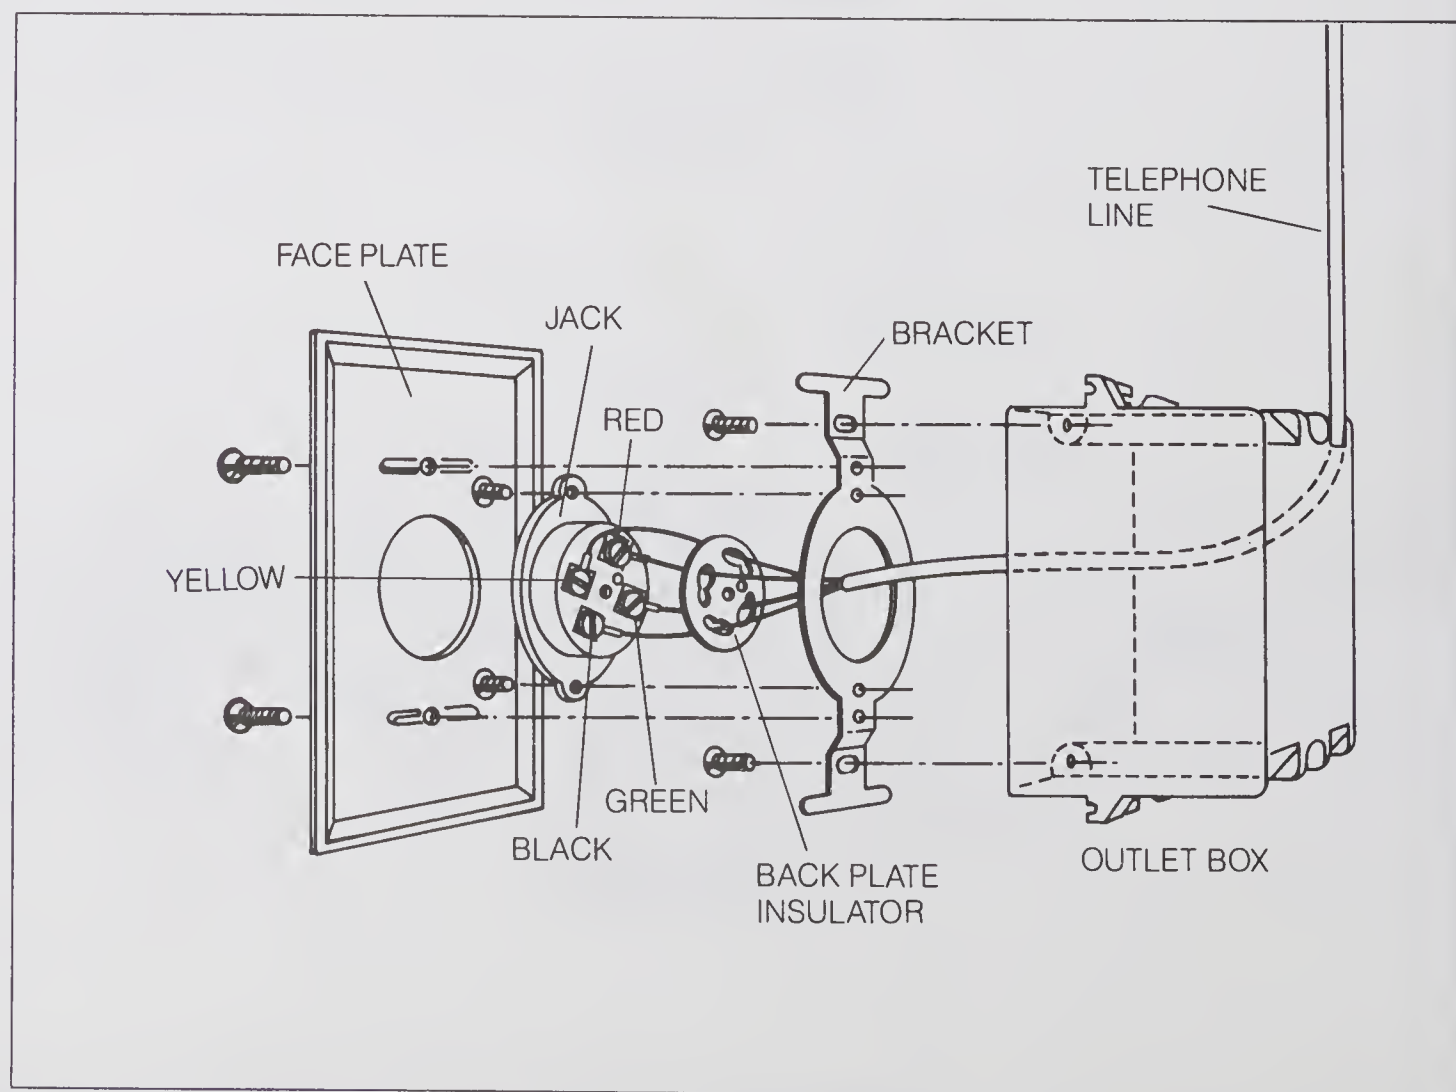
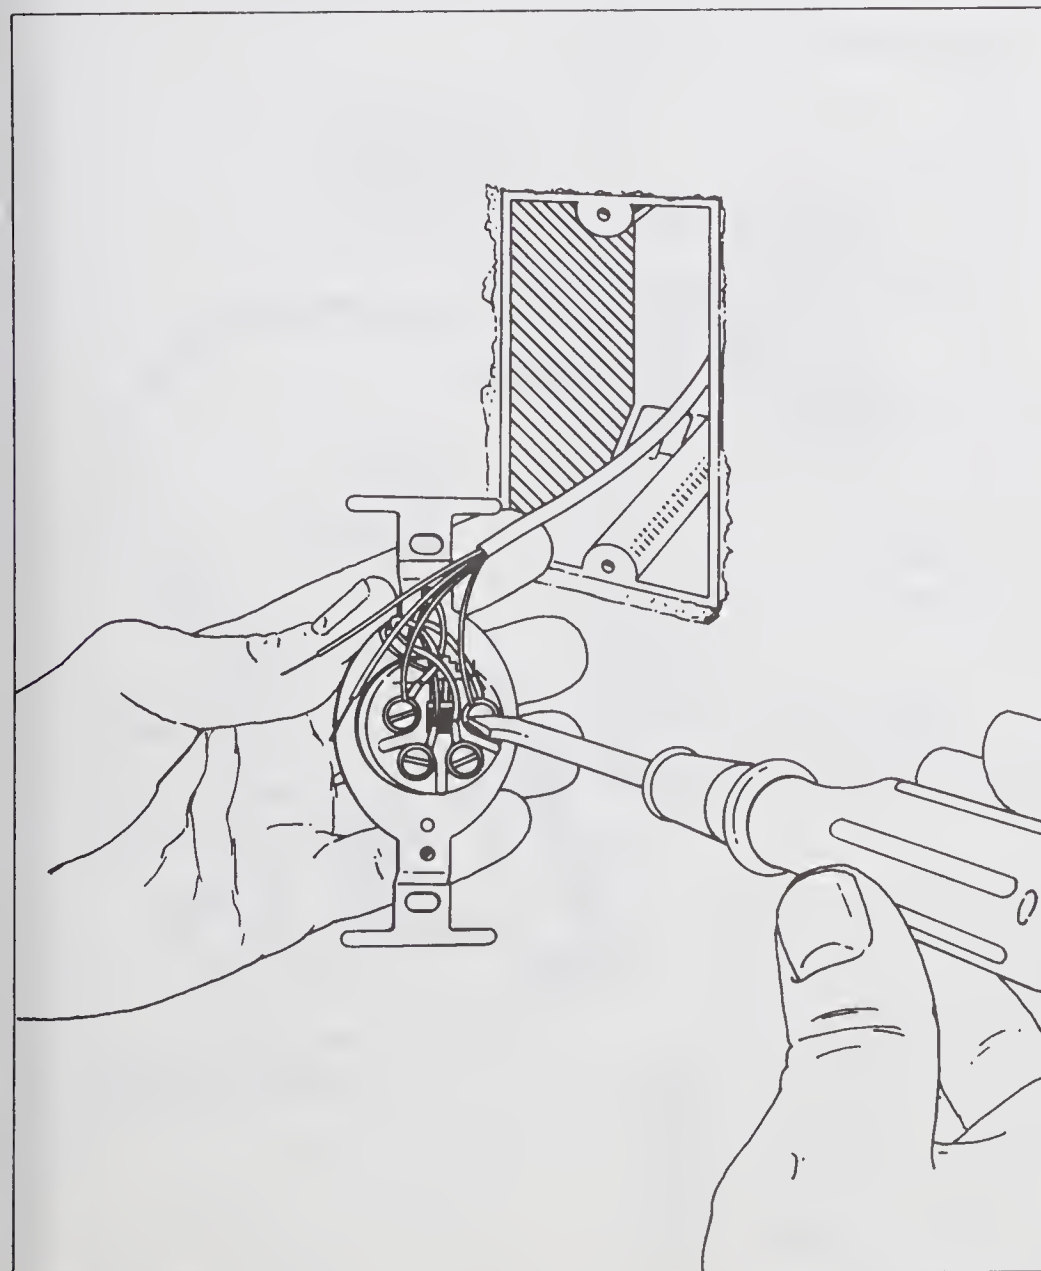
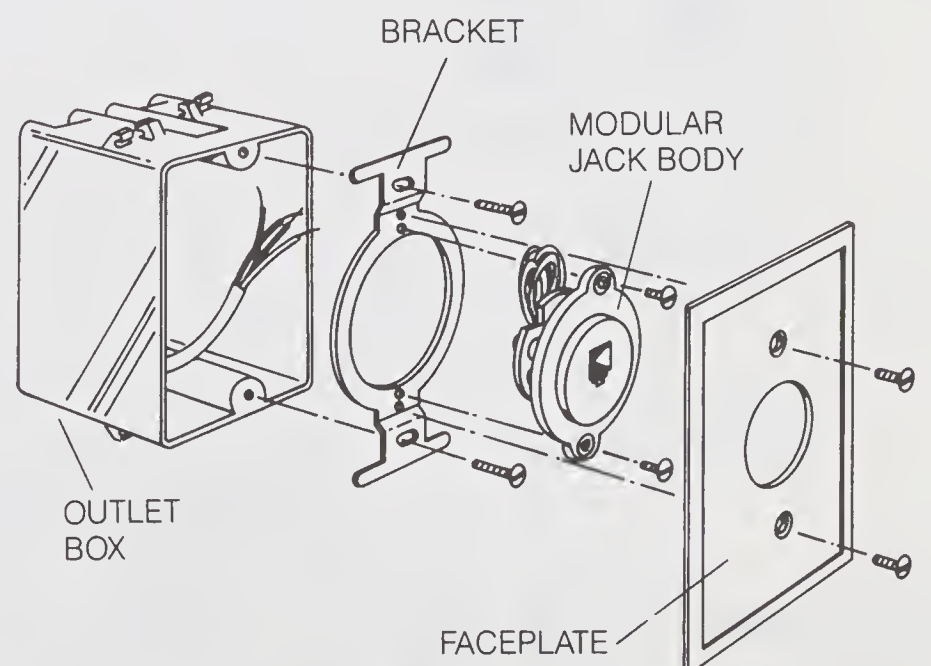

Figure 4-8.
Figure 4-9.
Figure 4-10.
A second way is to rewire the outlet box jack and substitute a modular jack and new faceplate. The 4-prong jack in the outlet box is wired as shown in *Figure 4-8*. Follow these steps to convert it to modular: (This example uses spade lugs or bare wires.)
2. Remove the two screws that hold the bracket to the outlet box. Pull the bracket forward so the screw terminals are available on the back of the jack body (*Figure 4-8*) and disconnect the cable wires from the terminals. The terminals should contain red wires connected, yellow wires connected, green wires connected and black wires connected. (In some cases, only one wire may be connected to each terminal.) Do this carefully. Don't touch any bare wires. Don't break any wires.
4. Obtain a modular jack assembly that mounts in the outlet box and has a faceplate that fits flush to the wall. One of these modular jacks and its faceplate is shown in *Figure 4-10*.
5. The assembly of the modular jack to its bracket shown in *Figure 4-10* is very similar to the 4-prong jack shown in *Figure 4-8*. Hold the bracket with the jack body so that the screw terminals are facing you as shown in *Figure 4-9* and connect the cable wires from the outlet box to the screw terminals. If there are spade lugs, put the spade lugs under the screw washers. If there are bare wires, wrap the wires around the screw terminals and tighten the screws (*Figure 3-4b*). Connect red to red, green to green, yellow to yellow and black to black.
11. **C.** Other style wall plates may have screw terminals as shown in the insert in *Figure 4-15*. Strip the insulation from each conductor and connect the bare wires to the screw terminals the same as for *Figure 4-9*.